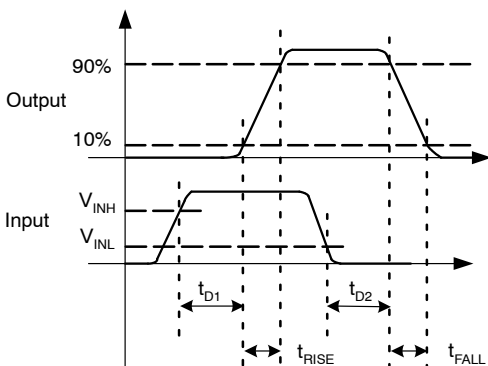
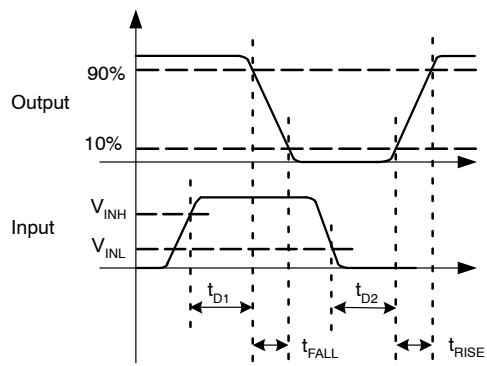
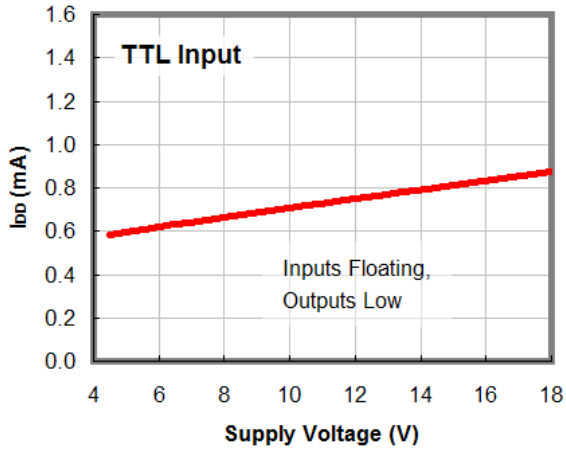
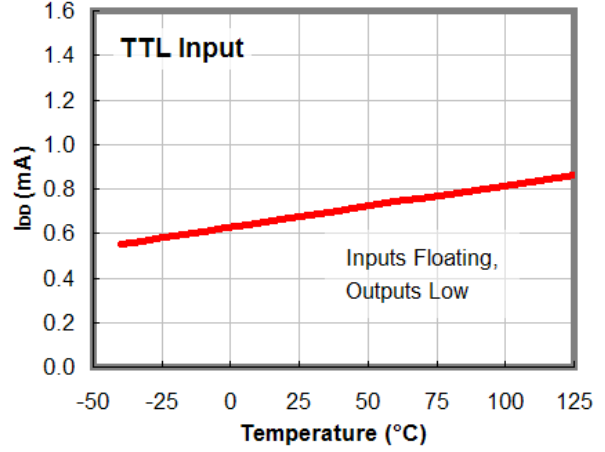

Figure 6. Non-Inverting Timing Diagram
Figure 7. Inverting Timing Diagram
Figure 8. I_{DD} (Static) vs. Supply Voltage (Note 10)
Figure 9. I_{DD} (Static) vs. Temperature (Note 10)
9. See Timing Diagrams of Figure 6 and Figure 7.
10. For any inverting inputs pulled low, non-inverting inputs pulled high, or outputs driven high, static I_{DD} increases by the current flowing through the corresponding pull-up/down resistor shown in Figure 6 and Figure 7.
In the I_{DD} (static) typical performance characteristics shown in Figure 8 and Figure 9, each curve is produced with both inputs floating and both outputs LOW to indicate the lowest static I_{DD} current. For other states, additional current flows through the 100 kΩ resistors on the inputs and outputs shown in the block diagram of each part (see Figure 6 and Figure 7). In these cases, the actual static I_{DD} current is the value obtained from the curves plus this additional current.